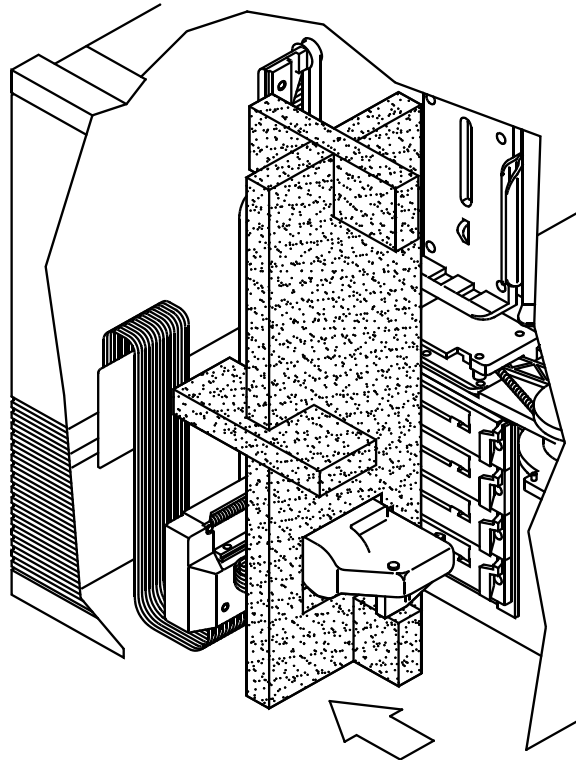

Figure 7-5 Moving the CHM into the pocket
2. Adjust the packing foam so the CHM fits into the pocket, as shown in Figure 7-5.